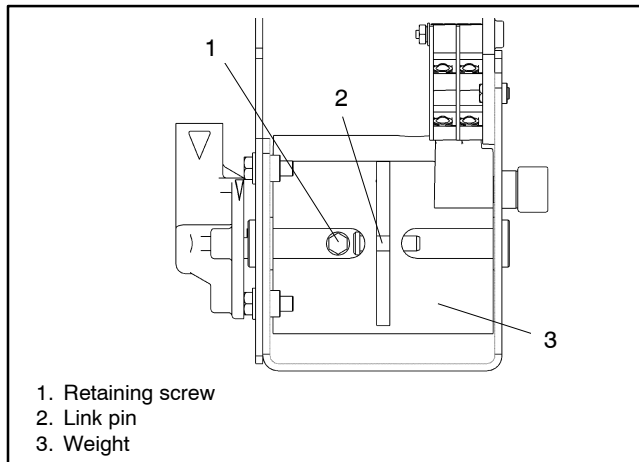
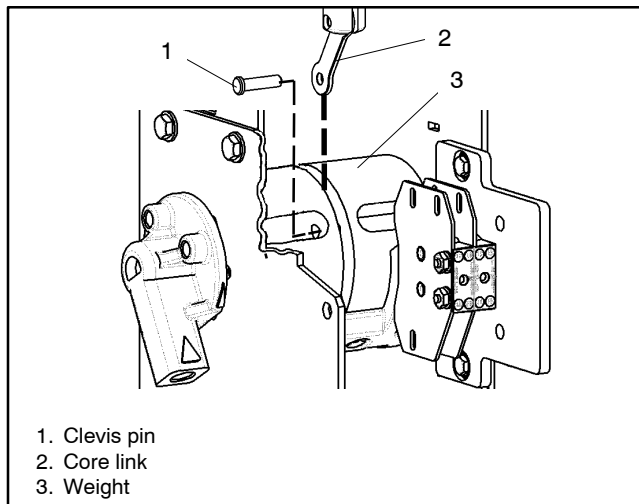

Figure 7-12 Link Pin Retaining Screw
Figure 7-13 Link Connection
5. Remove the link pin from the weight to release the core link. Use a 5/16 in. nutdriver to remove the link pin retaining screw from the weight left cavity. Insert a screwdriver into the weight right cavity and push the clevis pin to the left into the left cavity. This operation releases the core link from the weight. Remove the clevis pin from the weight. See Figure 7-12 and Figure 7-13.
retaining screw and install it through the control contact link and link pin into the left side of the weight. Use a 7/16 in. open-end or box wrench to tighten the retaining screw. There should be some play to allow movement of the control contact link. See Figure 7-12.
11. Remove the weight locking pin. To unlock the weight from the bearing plate, remove the clevis pin from the hub. This is very important! Severe damage will occur when the transfer switch is reenergized if the clevis pin is not removed. See Figure 7-13.